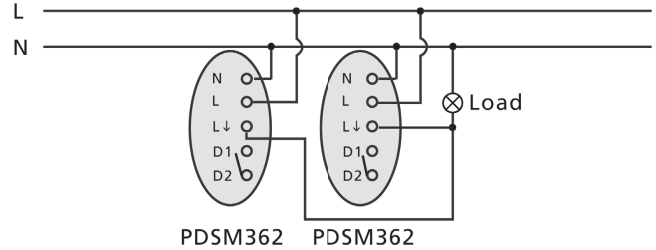

Fig. 4
3.2.2 Lighting is controlled by two PDSM362's to enlarge detection range (see Fig.4).